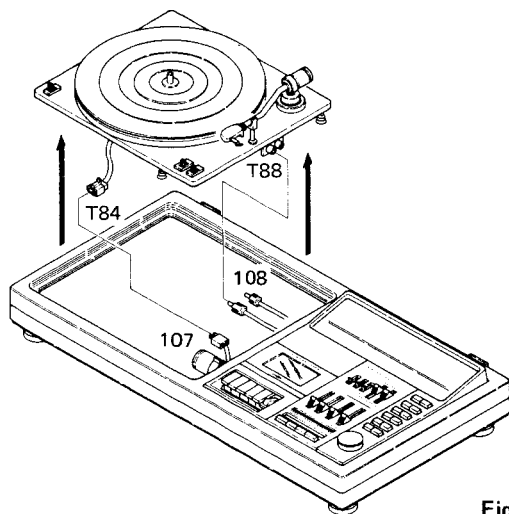

Fig. 1
A. Removing turntable unit (cf. Fig. 1)
1. First, dismount the turntable platter (T1) and the sheet (T91) on it. Next, remove the two special screws (19) fastening the turntable plate assembly (T10) to the main unit of the G2811KL. (cf. TURNTABLE EXPLODED VIEW)
2. Detach the lead socket (107) from the plug (T84) of the turntable power cord. Pull two RCA plug pins (108) out of the socket assembly (T88). Now, the turntable unit can be separated from the G-2811KL unit.